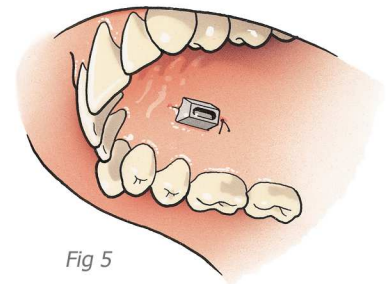

Fig 5
- 4 One resorbable suture on the posterior incision line is a safe measure against postoperative bleeding from the palatal branches (Fig 5).